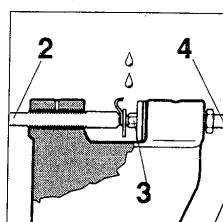
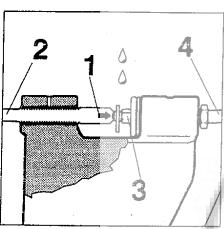

fig. 4
fig. 3
- 2- Position the cutter (fig.4) or the tie strap (fig.3) with the rivet head in the center of the lever notch (fig.3).
- 3- Turn take-up handle into press rivet (1) against the anvil head (3).
- 4- Turn the spinner crank (4) a few times in order to center the rivet on the anvil head (3).